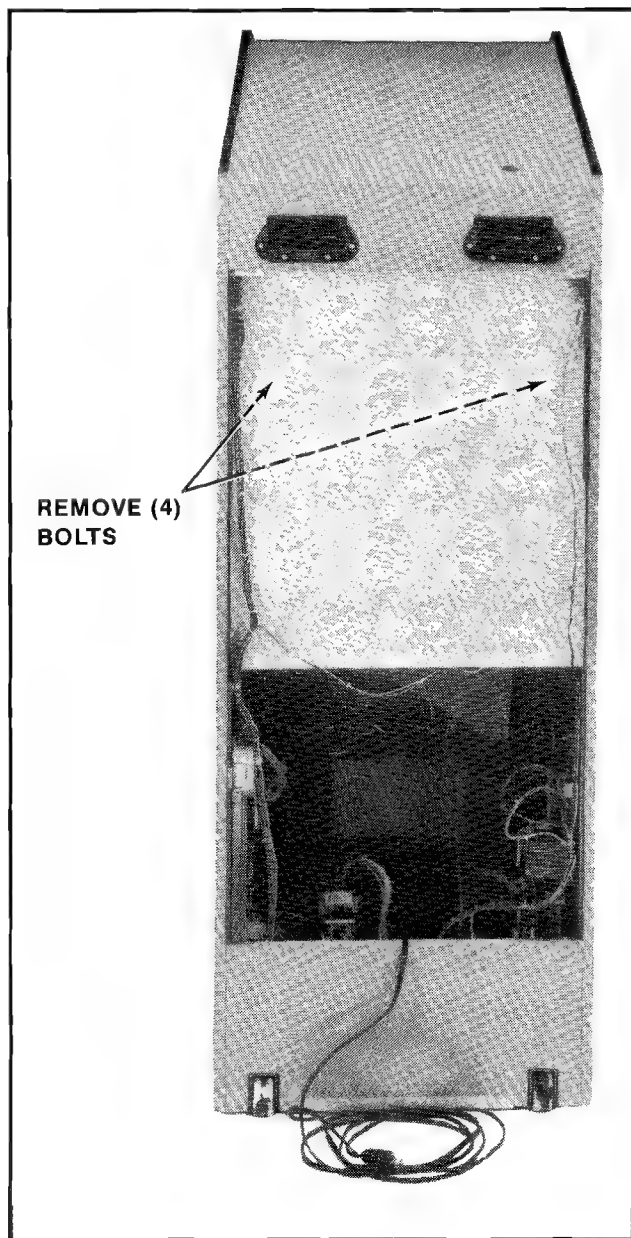

Figure 4-8 Removing the Monitor — Upright
1. UPRIGHT MODEL: See Figure 4-8.
- ☐ The monitor mounting bars slide on top of and against two metal guides mounted to the cabinet's right and left sides. The monitor is removed by sliding it out the back of the cabinet. See Figure 4-8.